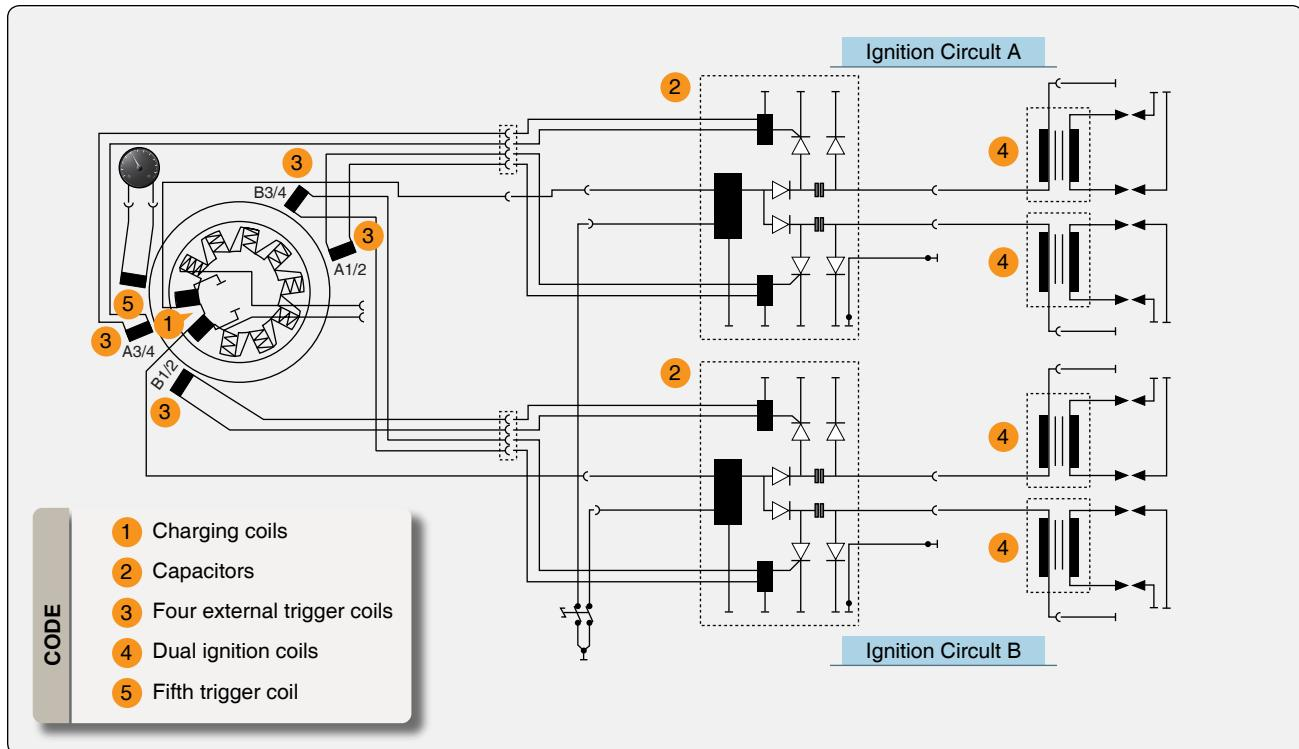

Figure 11-11. Electric system.
The Rotax 914 engine is equipped with a dual ignition unit that uses a breakerless, capacitor discharge design with an integrated generator. [Figure 11-11] The ignition unit is completely free of maintenance and needs no external power supply. Two independent charging coils (1) located on the generator stator supply one ignition circuit each. The energy is stored in capacitors of the electronic modules (2). At the moment of ignition, two each of the four external trigger coils (3) actuate the discharge of the capacitors via the primary circuit of the dual ignition coils (4). The firing order is as follows: 1-4-2-3. The fifth trigger coil (5) is used to provide the revolution counter signal.